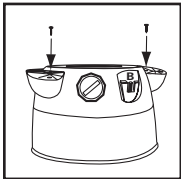

FIGURE 4
3. Secure with screws provided. **FIGURE 4**.